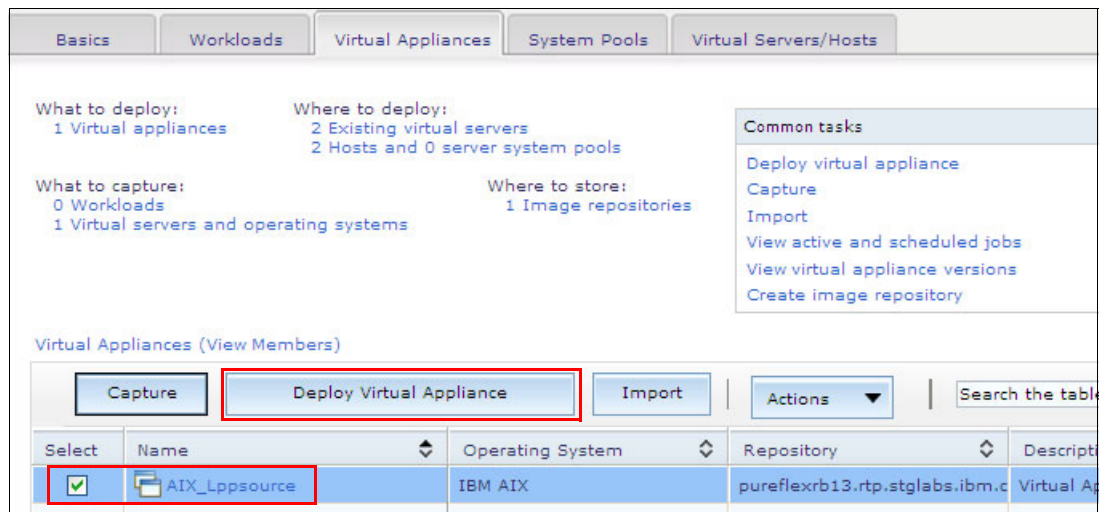

Figure 10-128 VM deployment by using the LPP_source
2. Select an LPP_source, then click the **Deploy Virtual Appliance** task, as shown in Figure 10-128.